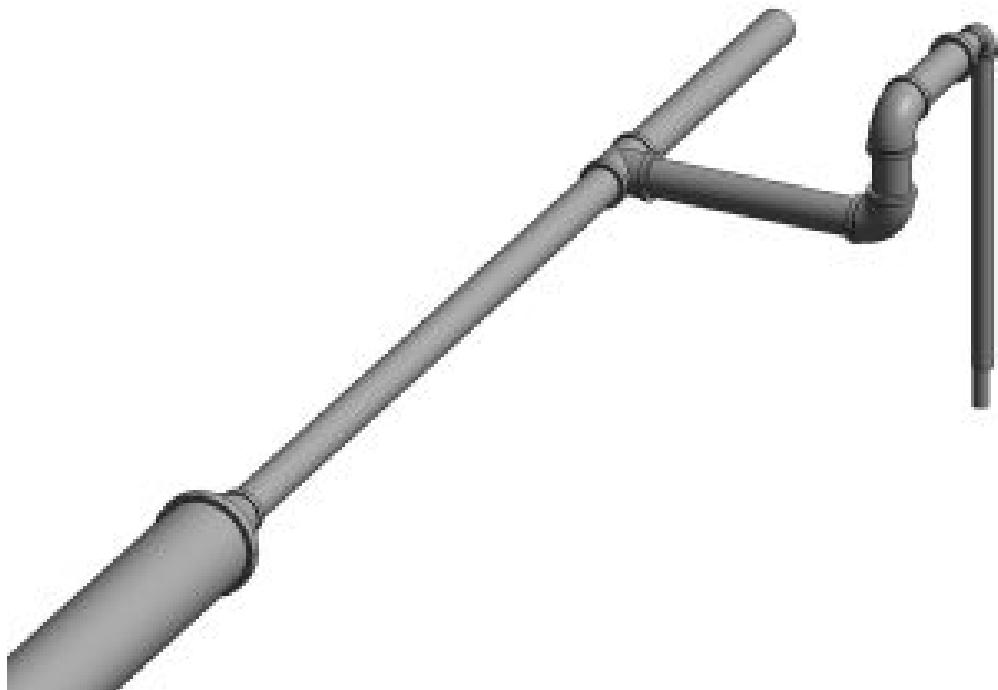

Figure 15.8 Pipe main and branch lines connected to the sprinkler head shown in 2D plan view (left) and in 3D view (right)
10. Draw a 1 ½" diameter pipe out towards the sprinkler head as shown in Figure 15.8
12. Draw a pipe from the 1/2" pipe to the center of the sprinkler and Revit will connect it automatically. See Figure 15.8 for reference.